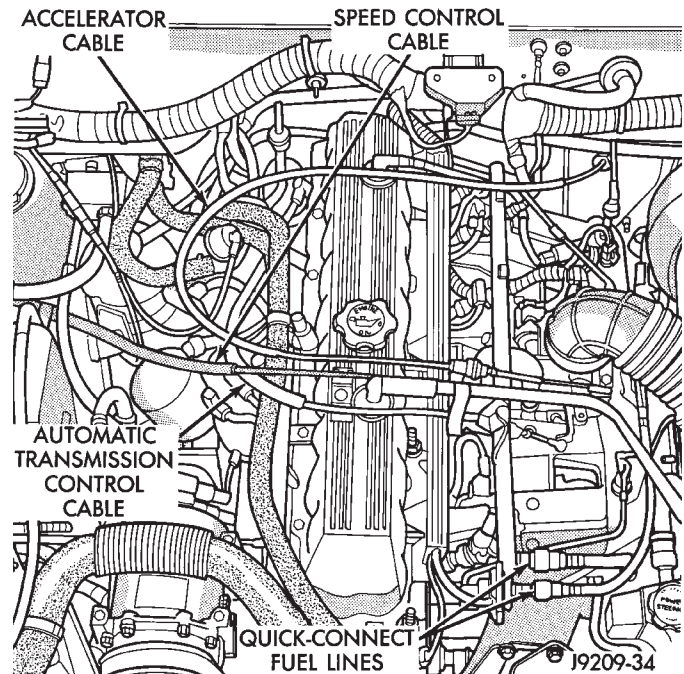

Fig. 15 Accelerator Cable, Speed Control Cable, Automatic Transmission Control Cable & Quick-Connect Fuel Lines
(14) Disconnect the throttle linkages (Fig. 15).
(15) Disconnect the speed control cable (if equipped)—(Fig. 15).
(16) Disconnect the line pressure cable (if equipped with automatic transmission).
(17) Disconnect injection system wire harness connector at the dash panel.
(18) Disconnect the distributor electrical connection and the oil pressure switch connector.
(19) Disconnect the quick-connect fuel lines at the fuel rail and return line by squeezing the two retaining tabs against the fuel tube (Fig. 15). Pull the fuel tube and retainer from the quick-connect fitting (refer to Group 14, Fuel System for the proper procedure).